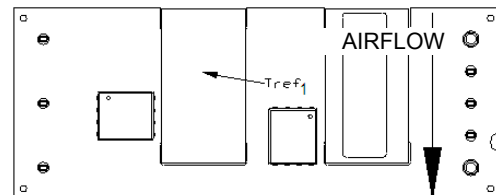
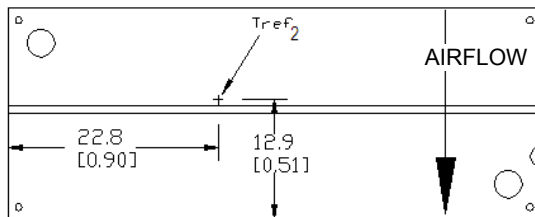

Figure 12. T_{ref} Temperature Measurement Location for Open Frame Module.
Figure 13. T_{ref} Temperature Measurement Location for Module with Heatplate.
To provide protection under certain fault conditions, the unit is equipped with a thermal shutdown circuit. The unit will shutdown if the thermal reference point, T_{ref1} exceeds 135°C (Figure 12, typical), or T_{ref2} exceeds 120°C (Figure 13, typical), but the thermal shutdown is not intended as a guarantee that the unit will survive temperatures beyond its rating. The module will automatically restart upon cool-down to a safe temperature.
Considerations include ambient temperature, airflow, module power dissipation, and the need for increased reliability. A reduction in the operating temperature of the module will result in an increase in reliability. The thermal data presented here is based on physical measurements taken in a wind tunnel. The thermal reference point, T_{ref1}, used in the specifications for open frame modules is shown in Figure 12. For reliable operation this temperature should not exceed 130°C.
The thermal reference point, T_{ref2} , used in the specifications for modules with heatplate is shown in Figure 13. For reliable operation this temperature should not exceed 104°C.